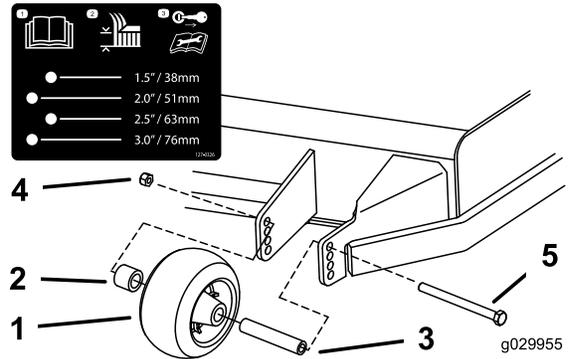

Figure 32
3. Adjust the anti-scalp rollers as shown in Figure 32, Figure 33, and Figure 34.